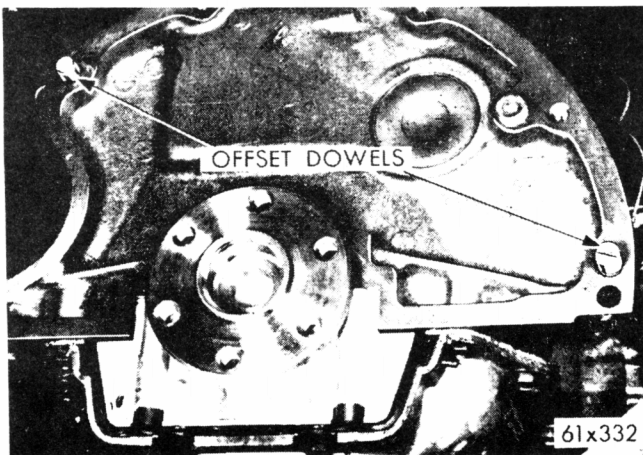

Fig. 3 – Offset dowel installation
(1) After determining the amount and direction of transmission case bore runout, select a pair of offset dowels with offset nearest to half the amount of runout.
(2) Drive old dowels from engine block flange and install the selected offset dowels with slots parallel and offset in the direction of runout. The upper dowel must be installed with the slotted end into block flange (toward the front of engine). Install lower dowel with slotted end toward rear, as shown in *Fig. 3*. Both dowels must be installed up the shoulder of offset.